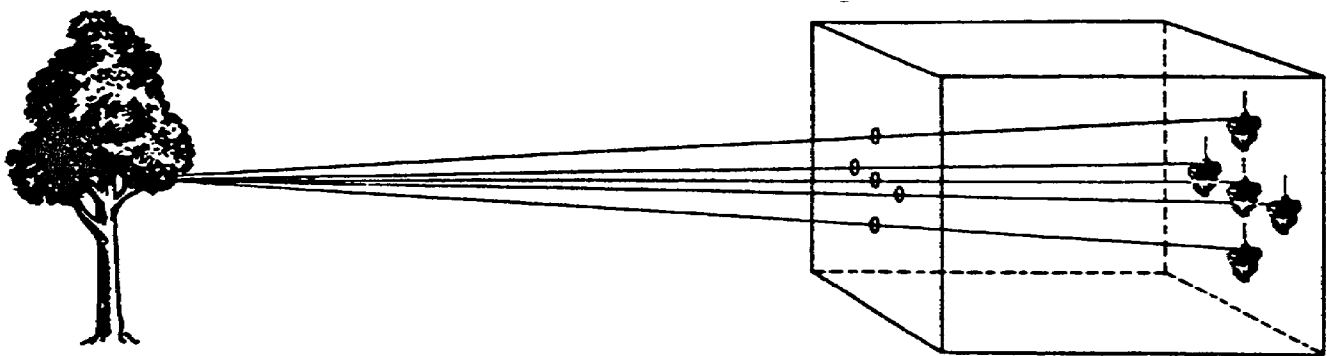

Figure 2-3. Separate images of the same object.
b. Now, consider a third pinhole on the side of the first, a fourth on the other side, and a fifth below the first. All four pinholes project separate images, slightly removed from the first or center one (fig 2-3).